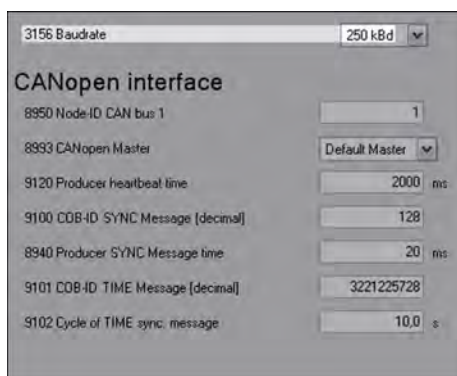

Fig. 170: Baud rate configuration (example ToolKit)
1. In ToolKit configure the baud rate as shown in (Fig. 170).